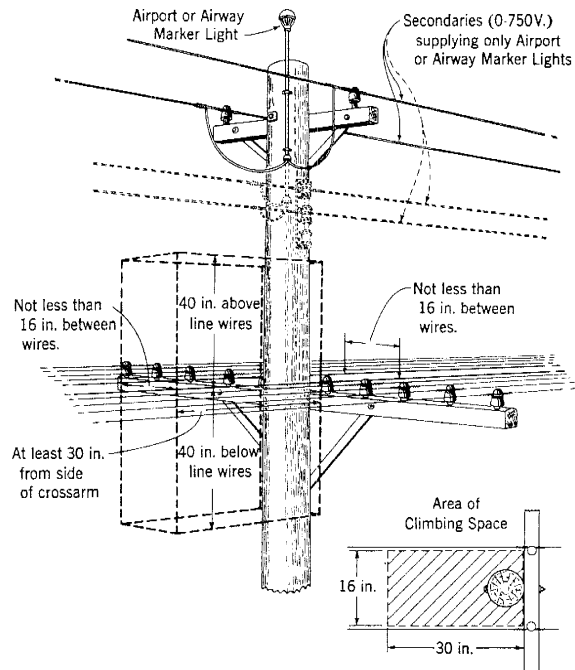

Fig. 5
**3.06** On joint poles carrying only longitudinal power conductors of 750 volts or less and used to supply airport or airway marker lights, the width of climbing space *across* the line may be reduced to 16 inches. The width of climbing space *along* the line must be maintained at 30 inches, however. See Fig. 5.